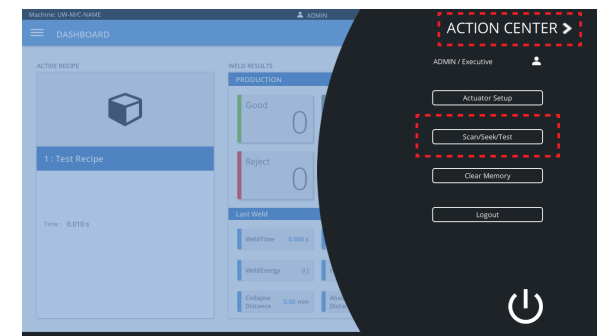

Figure 8: ACTION CENTER > SCAN/SEEK/TEST
1. Visit the **ACTION CENTER** (upper right corner), and select **SCAN/SEEK/TEST** (see **Figure 8**)